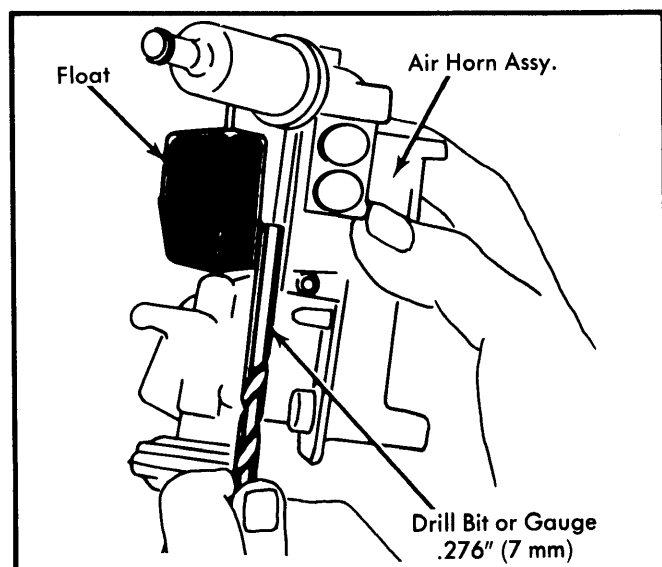

Fig. 2 Float Level Adjustment (Hold Air Horn As Shown)
- 4) Hold carburetor in vertical position. See Fig. 2.